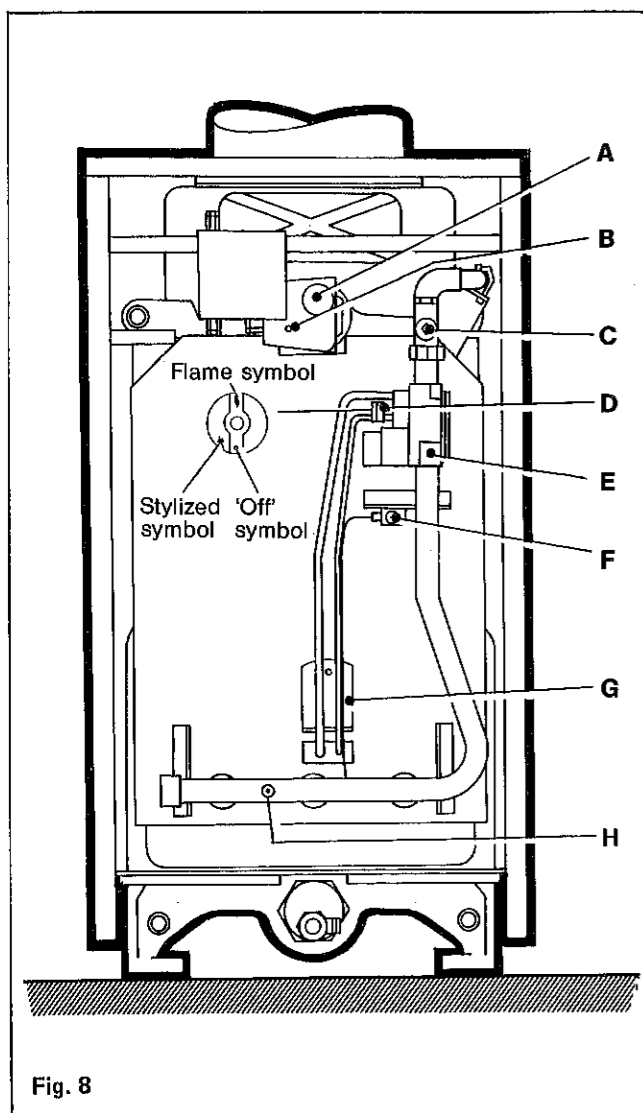

Fig. 8
(Fig. 8)
1. Extinguish the main burner and pilot burner by turning off the main gas inlet cock (Fig.8) (C).
3. Open the lighting door (Fig. 8) (F) and hold a lighted taper adjacent to the pilot burner and then open the main gas inlet cock. Neither the pilot burner nor the main burner should ignite.